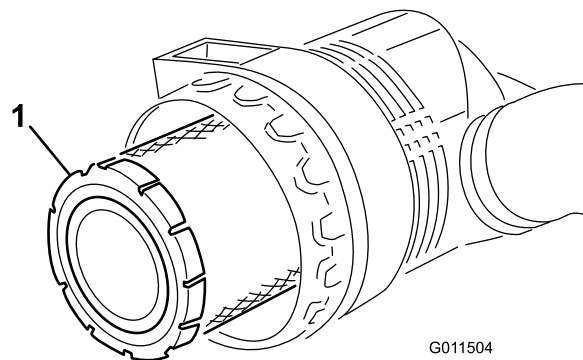

Figure 51
2. Before removing the filter (Figure 51), use low pressure air (40 psi, clean and dry) to help remove